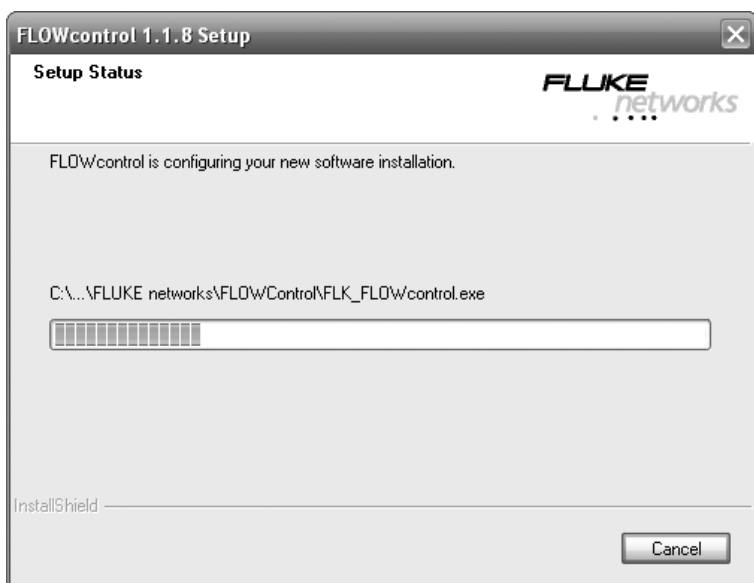

Figure 12. FlowControl™ installation setup progress
4. A progress bar shows the status of the installation (**Figure 12**).